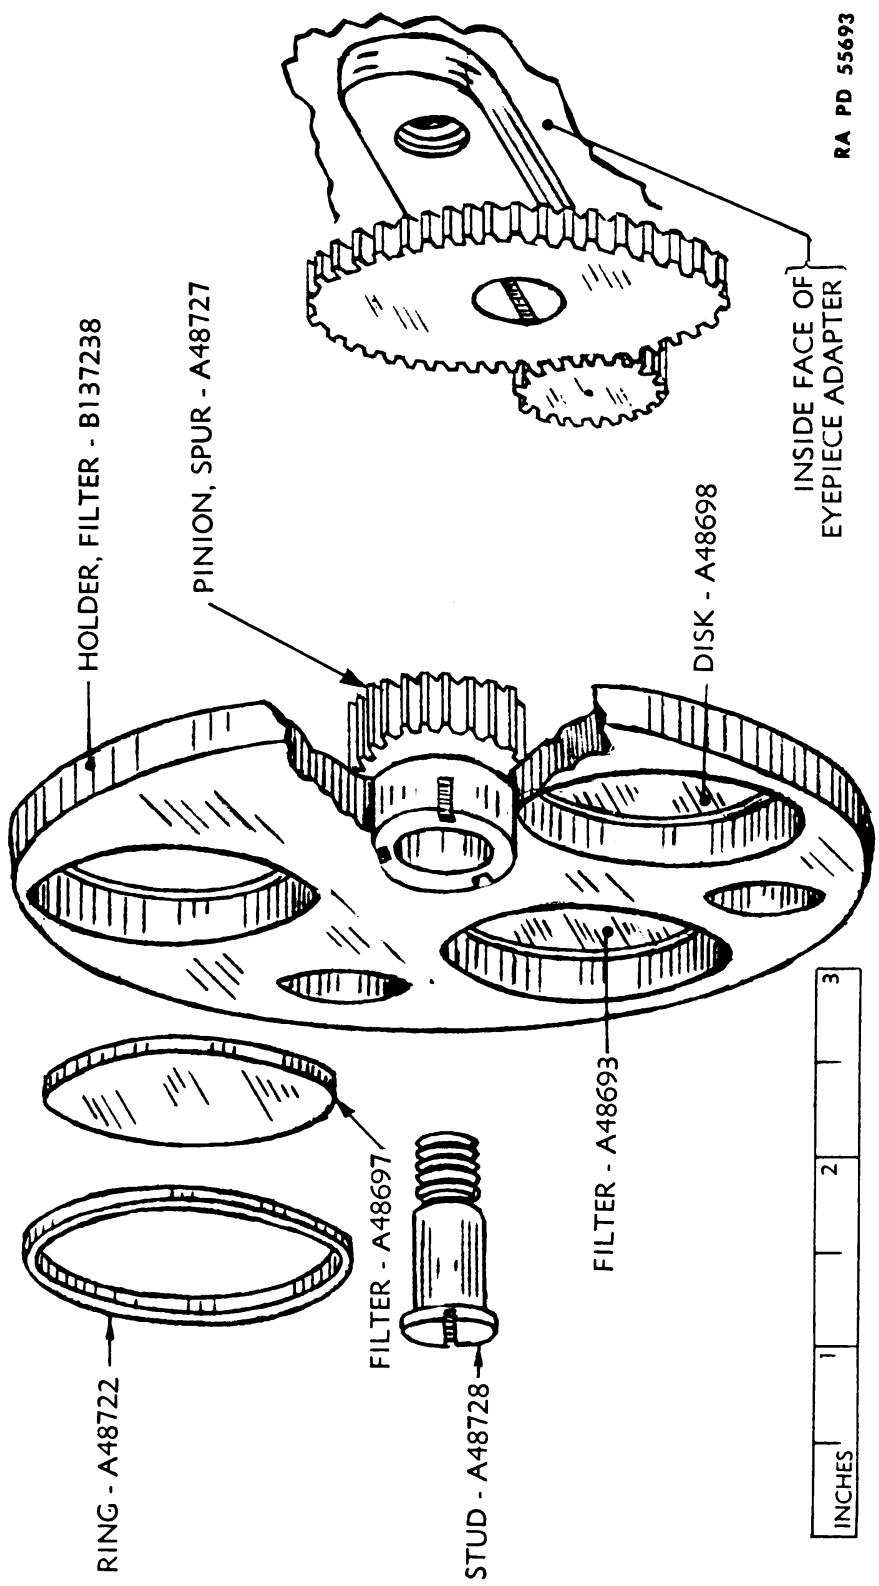

Figure 40—Ray Filter Assembly—Exploded View
c. **Ray Filter Removal.** Unscrew the pinion stud A48728 (fig. 40). Remove the filter holder B137238 and spur pinion A48727 as a unit from the eyepiece adapter. The spur pinion should not be removed from the filter holder as it is staked in place and cannot be removed without destroying the parts.